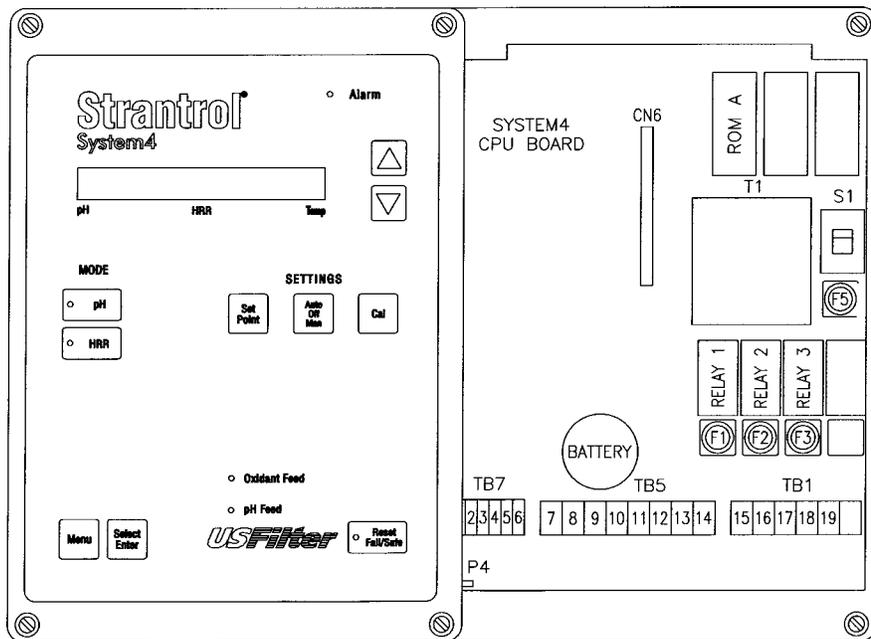

Fig 3.3
- Open System4 and place lid to the left, lining up the right two holes of the lid with the left two holes of the base. (Fig 3.3)